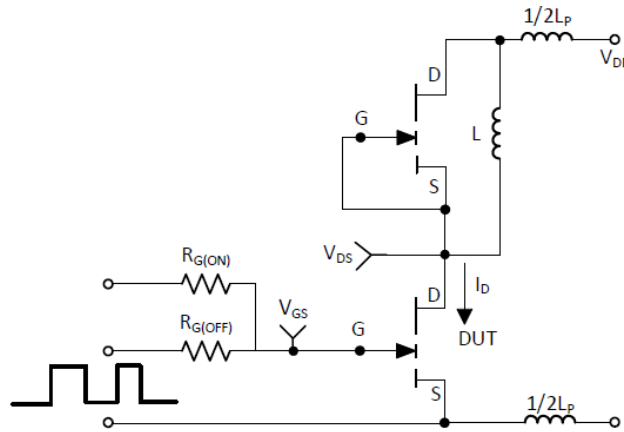

Figure 16: Switching Loss Test Circuit
(5) L_P is the switching circuit parasitic inductance.
(6) See Figure 16 for switching loss test circuit.